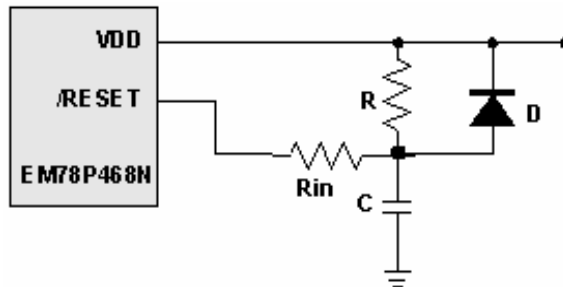

Fig. 12 External Power on Reset Circuit
This circuit implements an external RC to produce a reset pulse (see Fig.12). The pulse width (time constant) should be kept long enough to allow VDD to reach minimum operation voltage. This circuit is used when the power supply rise time is slow. Because the current leakage from the /RESET pin is about  $\pm 5\mu\text{A}$ , it is recommended that R should not be great than 40K. In this way, the voltage at Pin /RESET is held below 0.2V. The diode (D) acts as a short circuit at power-down. The capacitor, C, is discharged rapidly and fully. Rin, the current-limited resistor, prevents high current discharge or ESD (electrostatic discharge) from flowing into Pin /RESET.